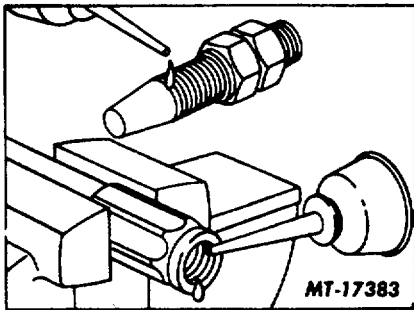

Fig. 4
7. Reposition hose and socket in the vise as shown in Fig. 4. Lubricate hose socket and fitting threads.